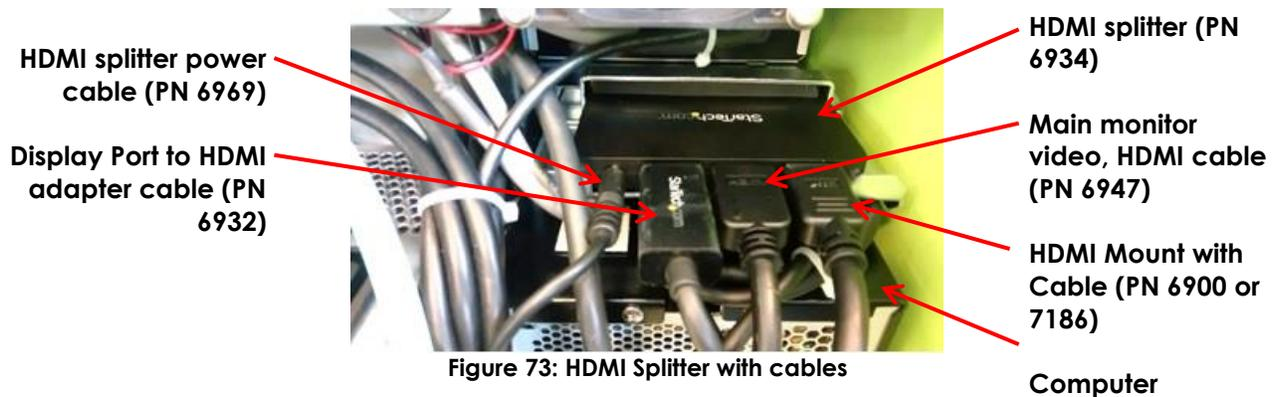

Figure 73: HDMI Splitter with cables
2. Disconnect cables from HDMI Splitter (refer to Figure 73)
2. Connect the following cables to the HDMI Splitter (refer to Figure 73)